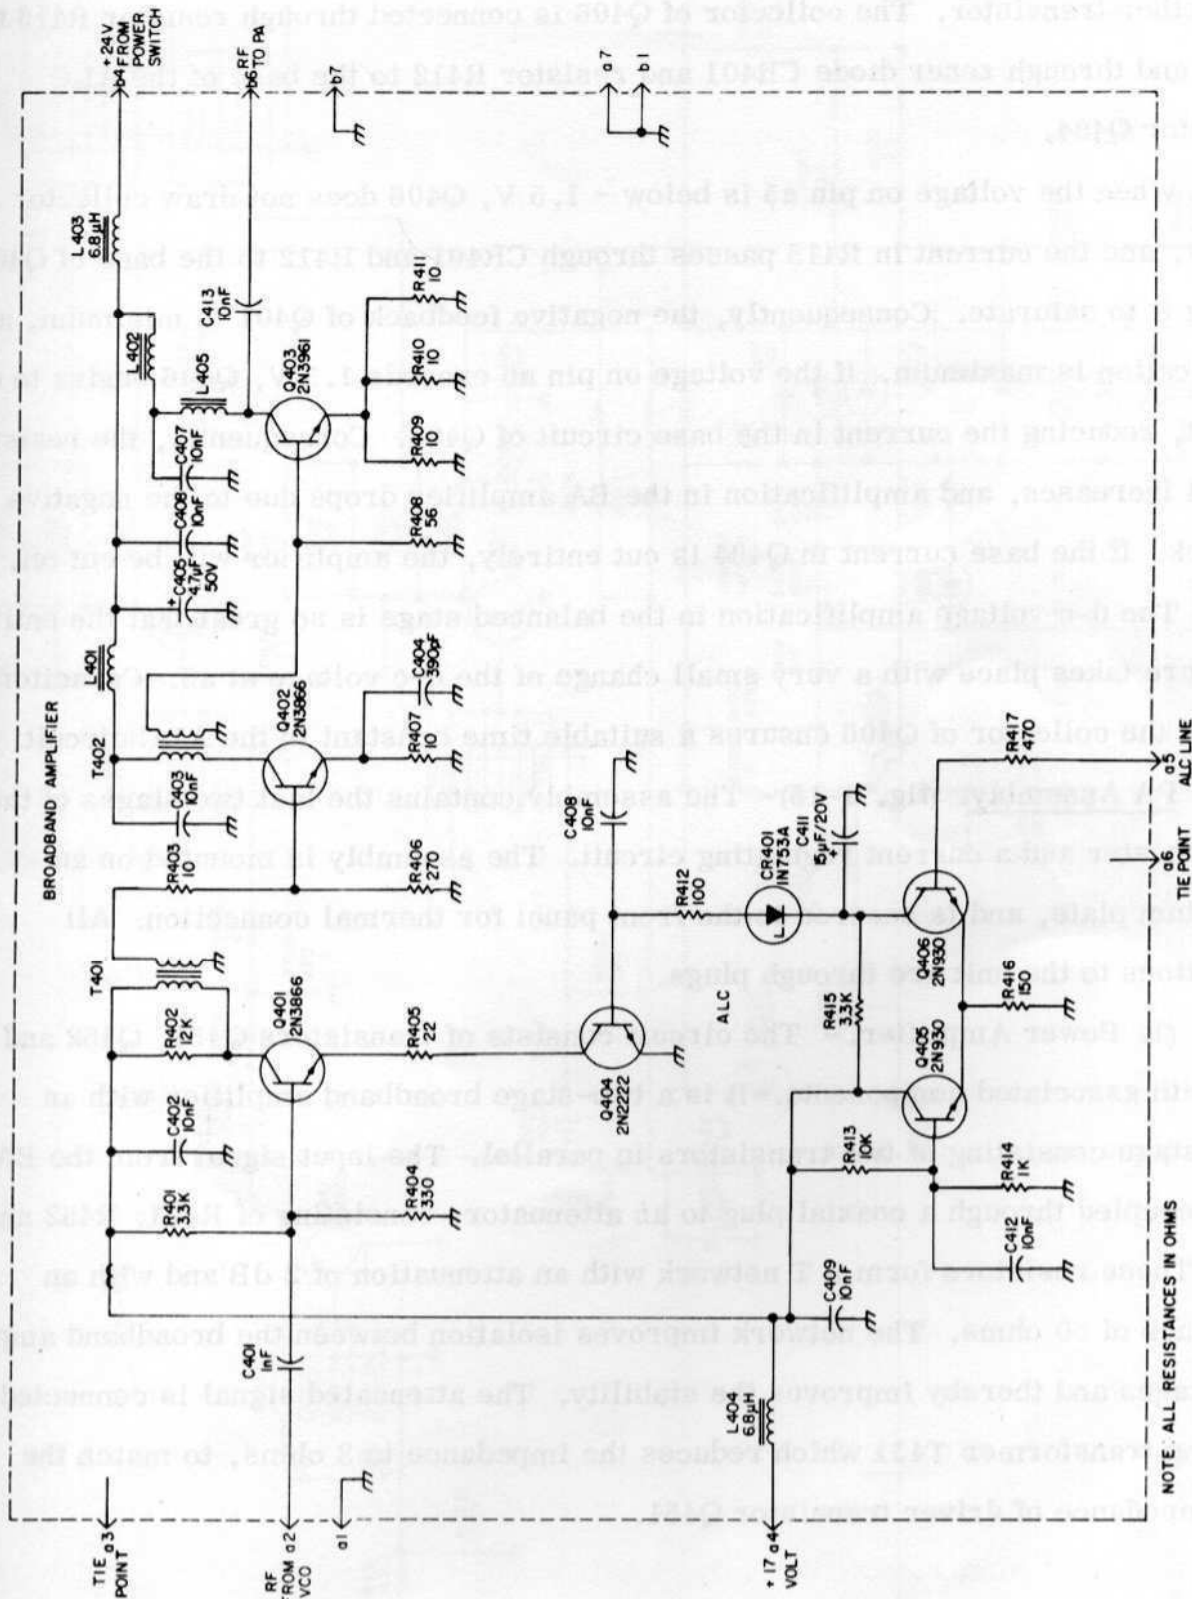

Figure 4-14. Broadband Amplifier (BA) Unit A400, Schematic Diagram
h. BA Unit. (fig. 4-14)- This unit forms part of the broadband amplifying chain which amplifies the VCO signal up to 30 W. The unit consists of a three-stage broadband amplifier with variable amplification, and a d-c voltage amplifier. The circuit is incorporated in a three-module plug-in unit.
(1) Broadband Amplifier. - This circuit consists of transistors Q401, Q402, Q403 and Q404 with associated components. The input signal from the VCO unit is applied through pin a2 and capacitor C401 to the base of Q401. The transistor is biased class A by voltage divider resistors R401 and R404 at the base, and by emitter resistor R405. Transistor Q404 operates as a variable emitter resistor for direct current and high frequency. The amplification of Q401 may be varied by changing the base current of Q404. The broadband transformer in the collector of Q401 couples the signal through damping resistor R403 to the base of Q402. This stage operates class B since the base is grounded. Collector current is determined by the excitation at the base, and by emitter resistor R407. This stage, and the subsequent stages of the amplifying chain are powered by an unstabilized 24 V supply. The supply voltage is connected as soon as the set is turned on, but no current is drawn unless there is excitation. The output of Q402 is coupled through transformer T402, to the base of Q403. This transistor operates class B with an unbypassed emitter resistance consisting of resistors R409, R410 and R411. The output signal from the collector is fed through pin b6 to the Power Amplifier. The current supply line to the last two stages is filtered by inductors L401, L402 and L403, and decoupled for high frequency (C403, C406, C407) and low frequency (C405). The output power on b6 in the 30 W position is about 2 W at 76 MHz, dropping to about 0.5 W at 26 MHz; without attenuation, it is about 3-6 W across the frequency range. (The unit cannot withstand a short-circuit from b6 to ground during operation).
(2) D-c Voltage Amplifier. - The circuit consists of transistors Q405 and Q406, with associated components, that form a balanced d-c voltage amplifier. Input terminal a5 is connected from the current limiting circuit in the PA assembly through R417 to